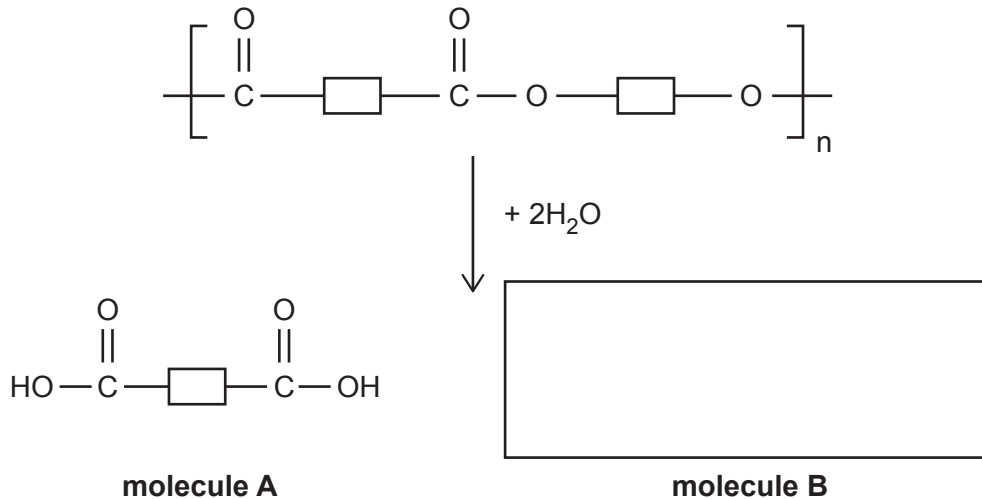

Fig. 4.2
- (b) One repeating unit of the polymer can be broken down by a reaction with water into its monomers, **molecule A** and **molecule B**, as shown in **Fig. 4.2**.
- (i) Complete the diagram in **Fig. 4.2** by drawing the structure of **molecule B**. [1]
How is the reaction to make the polymer different from the reaction in **Fig. 4.2**?